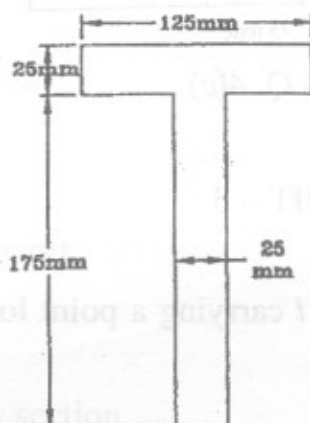

fig. 3 Q. 3 c)
- c) A simply supported beam carries a uniformly distributed load of 30 N/mm intensity over the entire span of 1 metre . The cross section of the beam is a T-section having the dimension as shown in Fig. 3. Calculate maximum shear stress for the section of beam. 8